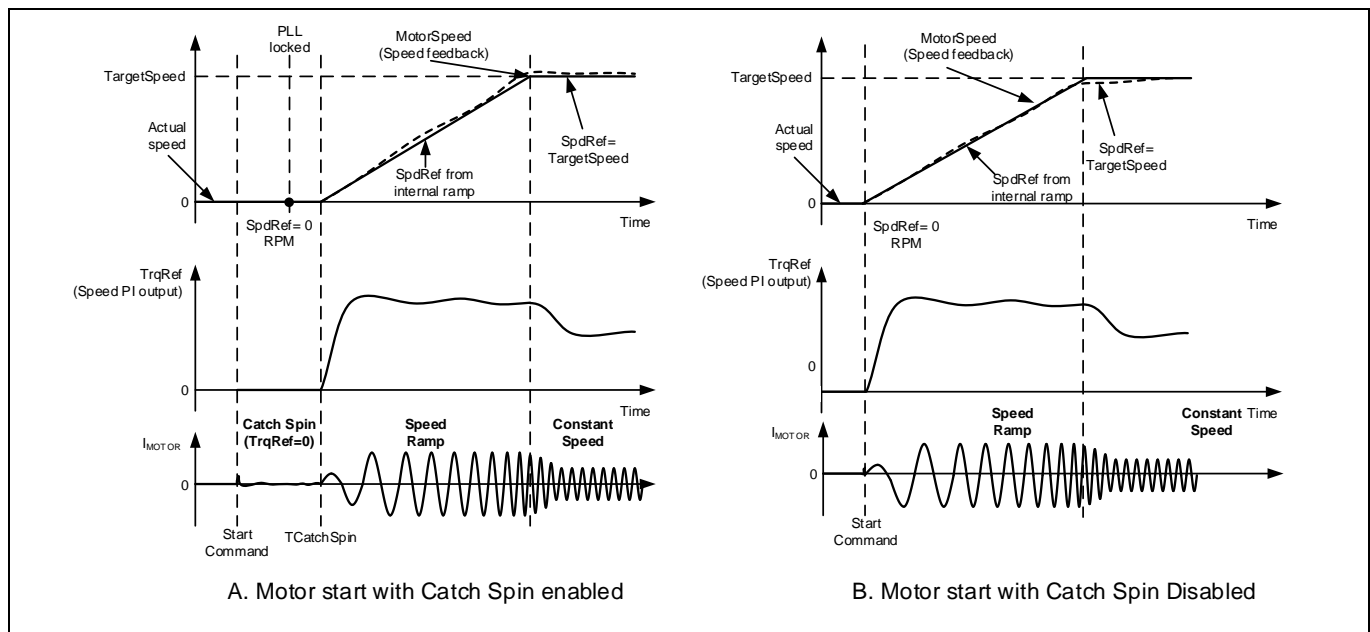

Figure 26 Zero Speed Catch Spin - Motor start with/without catch spin
If the motor is stationary, then the catch spin sequence is termed as ‘Zero Speed Catch Spin’. Figure 26(A) shows an example for ‘Zero Speed Catch Spin’. In this example, at the start command, the motor is stationary. After the start command, ‘Zero Speed Catch Spin’ sequence begins. During the catch spin sequence, no motoring current is injected. After the catch spin time has elapsed, the motor speed at that instance (which is 0 RPM) becomes initial speed reference and starting point for speed ramp reference. The motor continues to accelerate, following the speed ramp reference to reach the set target speed.
If catch spin is disabled, normal speed control starts immediately after the start command, without waiting for PLL to be locked. As shown in Figure 26 (B), after the start command, motoring current is injected directly as there is no catch spin sequence. The motor starts accelerating, following the speed ramp reference to reach the set target speed.